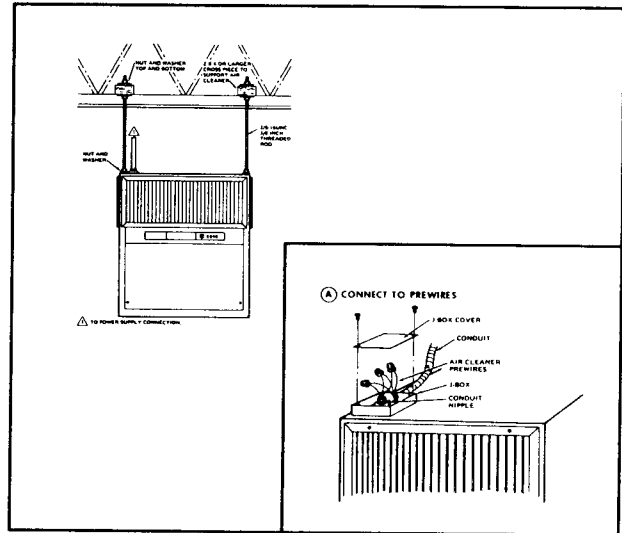

FIGURE 3 - F62B CEILING MOUNTING AND WIRING
All wiring must comply with applicable codes and ordinances. Wire the F62B using the junction box and conduit as indicated in Figures 3 & 4. The power source must be compatible with model ordered.
It is recommended that No. 14 wire be used to complete the wiring from the junction box to the external power source. However, be certain to comply with local codes. A green wire lead is provided in the wiring box for a grounding connection. (Figures 3 & 4.) Proper grounding of this device is mandatory for proper operation and safety.
1. Attach junction box (J-box not included) to conduit nipple on top of air cleaner with nut (Figure 3).